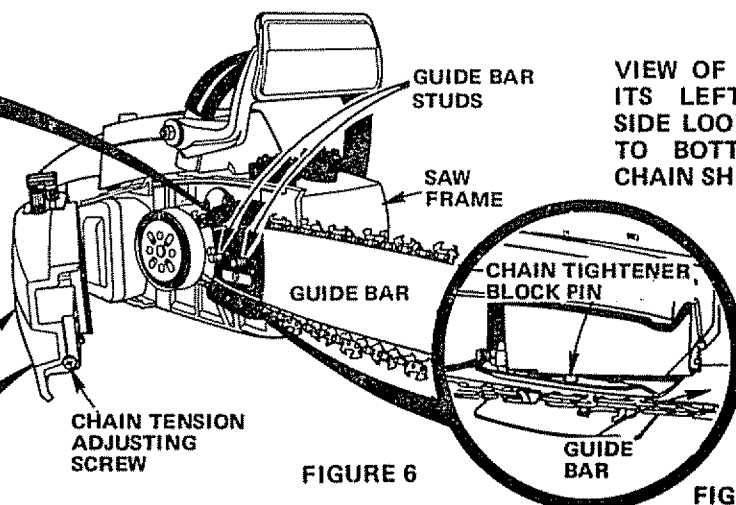

FIGURE 6
6. Place Outer Chain Guide on Guide Bar Studs with upper and lower edges bent AWAY from the Saw Frame (Fig. 6-A).
7. (Fig. 6). Push Guide Bar against Saw Frame. (Fig. 6-A). Hole in Guide Bar should be centered in slot of Outer Chain Guide. It may be necessary to pull Bar forward.
8. (Fig. 6-B). Center Chain Tightener Block Pin in Slot of Chain Shield. To do this, turn Chain Tension Adjusting Screw.
9. (Fig. 6). Place Chain Shield onto Guide Bar Studs. Holding Chain Shield to Frame, turn Saw on its side (Fig. 6-C). Chain Tightener Block Pin must be in Hole of Guide Bar, in order to tension Chain (Page 4).